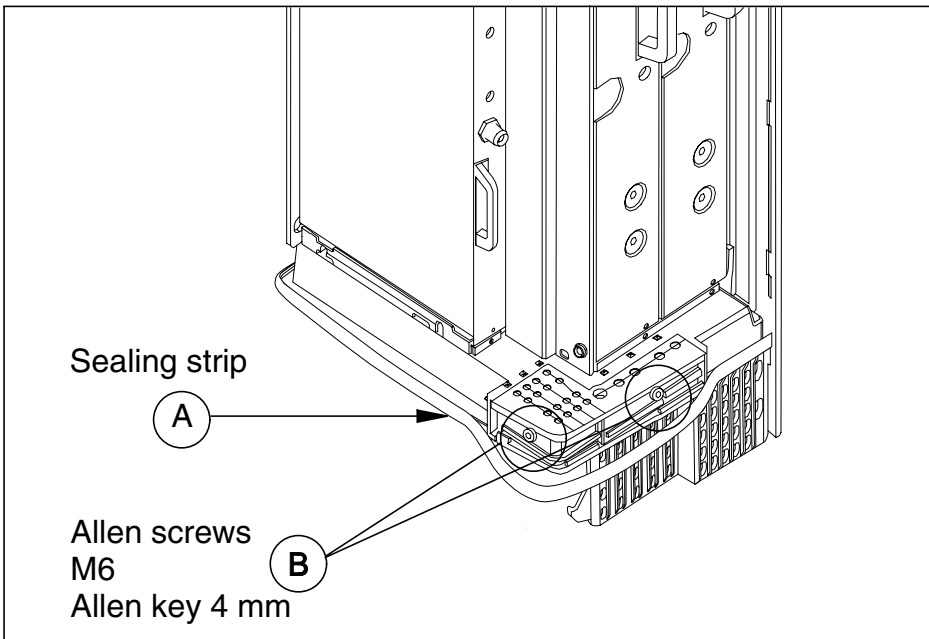

Figure 5. Sealing strip and cable entry block
4. Detach the outer sealing gasket at the point where it covers the cable entry block, see (A) in Figure 5.
5. Remove the two 4 mm (0.157 in) Allen screws on the cable entry block. See (B) in Figure 5.
5. Refit and tighten the two 4 mm (0.157 in) Allen screws on the cable entry block (see Figure 5).